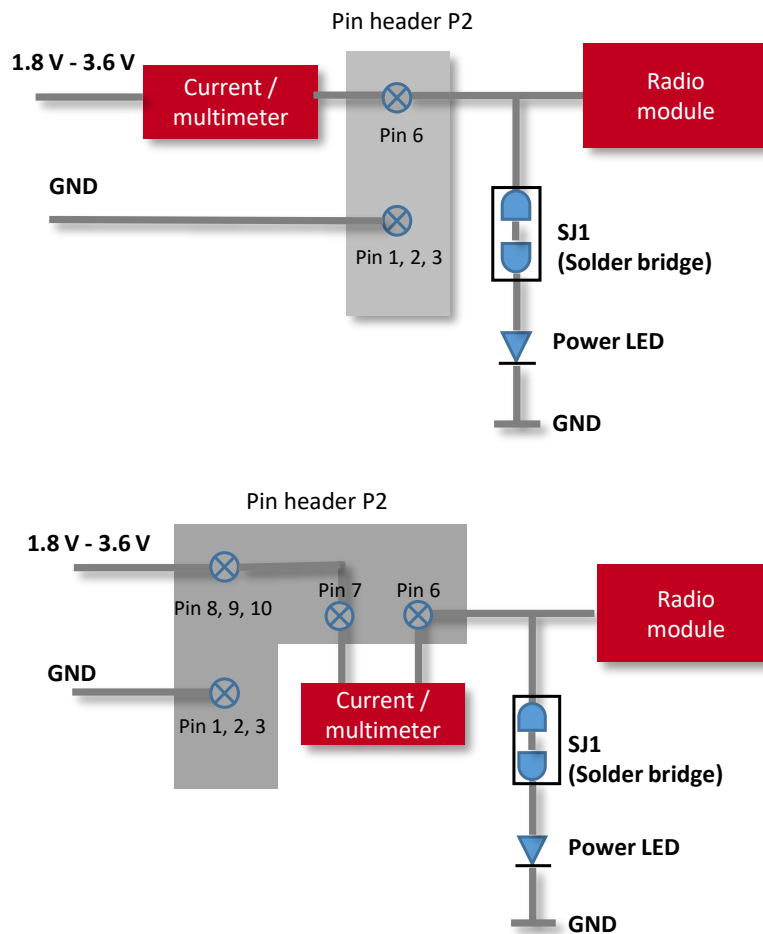

Figure 10: Power supply corresponding to table 21 No 3
1.8V-3.6V is connected either directly to Pin-6 (*VDD_MOD / V_IN*) and the current is measured in series as illustrated in the upper picture of Figure 10.
Or it is connected to Pin 8-10 (*V_EXT / SUPPORT PINS*) and the current is measured on header P2 Pin 7 (*V_EXT / SUPPORT PINS*), which is internally connected with Pin 8, 9, 10 to Pin 6 (*VDD_MOD / V_IN*) as illustrated in the lower picture of Figure 10. With SJ1 open the LED is not lighting but the current is measured corrected.